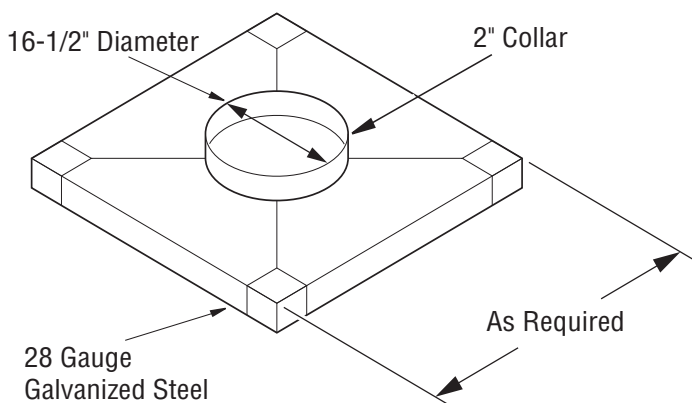

Figure 28 - Constructing Chase Top Flashing
3. Fabricate a flashing having a 16-1/2" diameter hole centered over chimney end with a 2" collar around hole (see Figure 28, page 16).